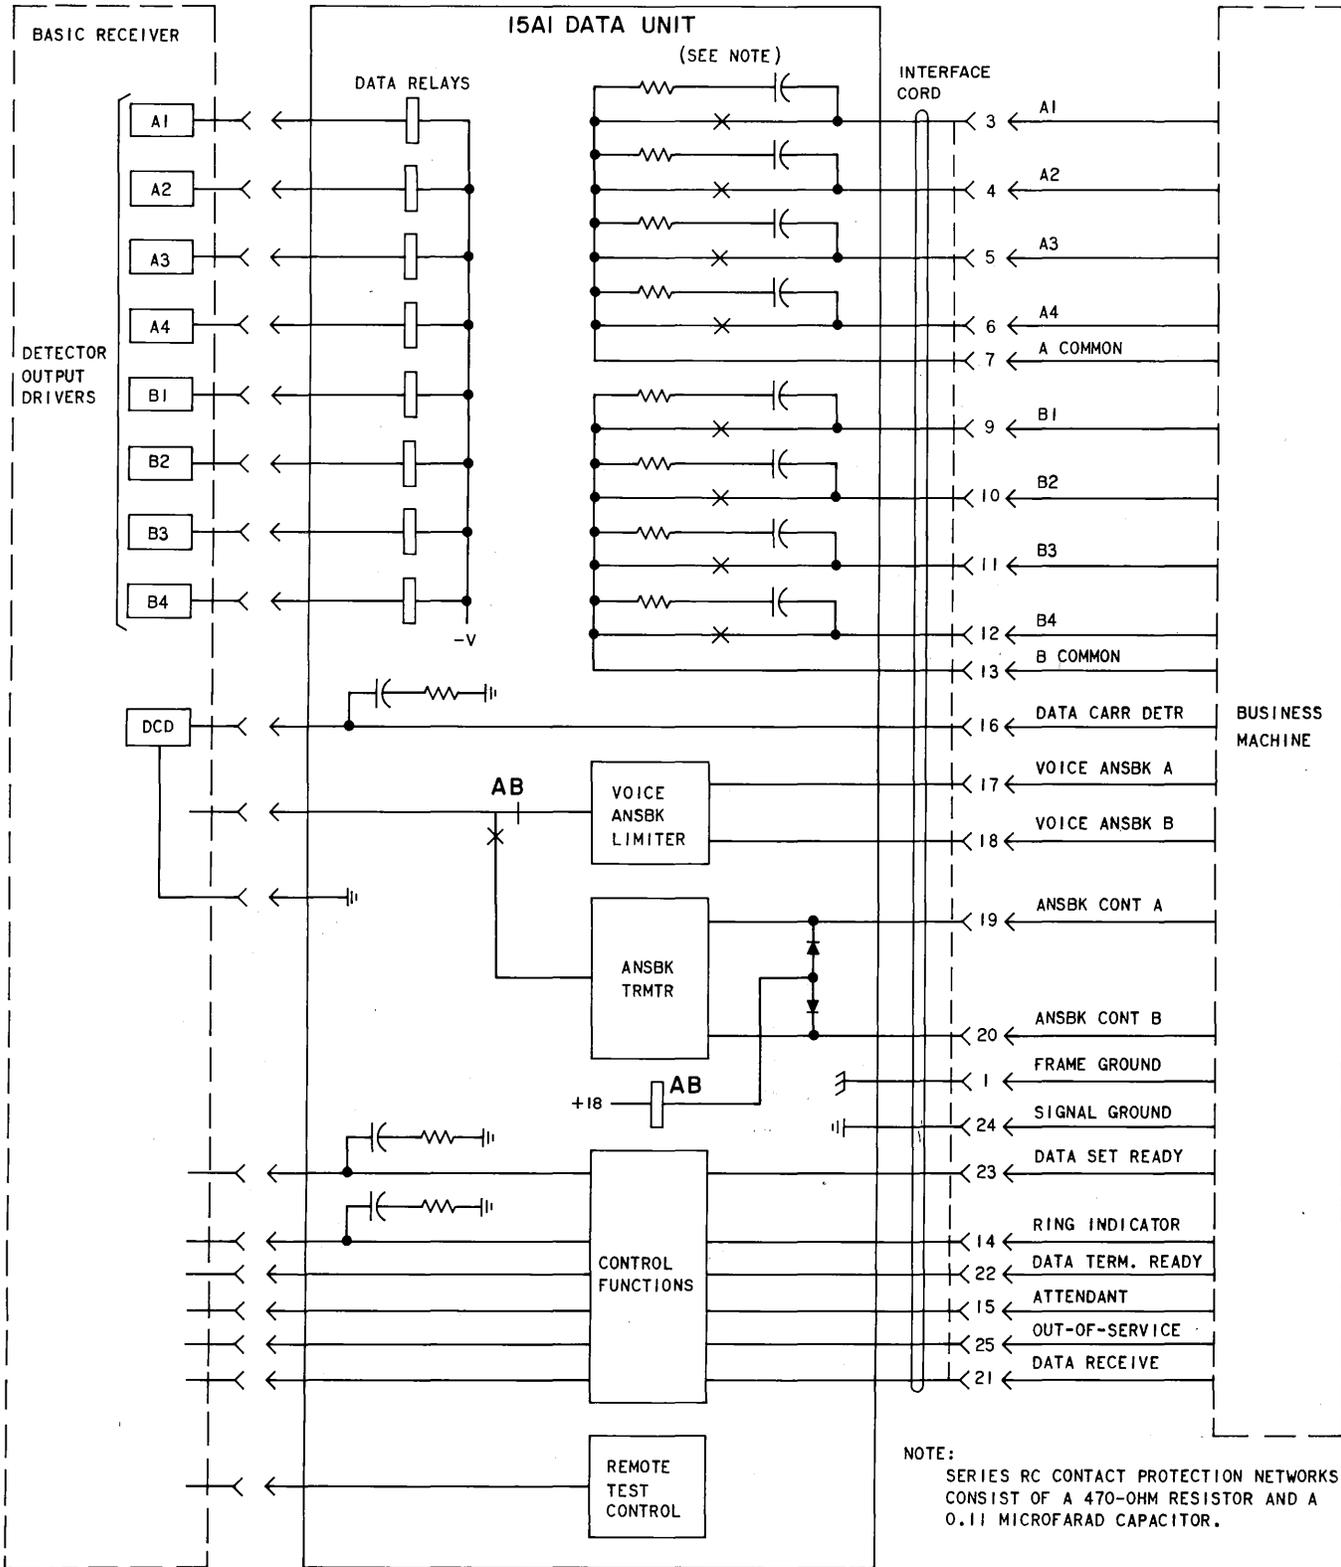

Fig. 5—15A1 Data Unit—Functional Block Diagram
3.01 Functionally, the 15A1 Data Unit consists of data relay circuitry, a voice answer-back limiter, an answer-back transmitter, remote test circuitry, and control function circuitry (Fig. 5).